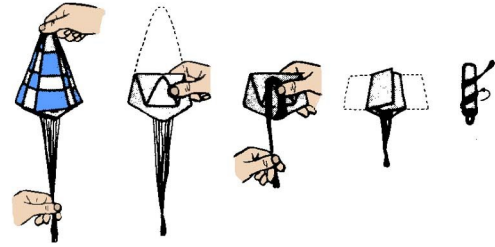

Figure 11
- **Step 24** Using Figure 11 as a guide, fold the parachute just before you are ready to launch. Never store the parachute inside the rocket. This is why you are instructed to attach a snap link to the parachute lines. When preparing to launch, attach the snap link to the screw eye in the base of the nose cone.